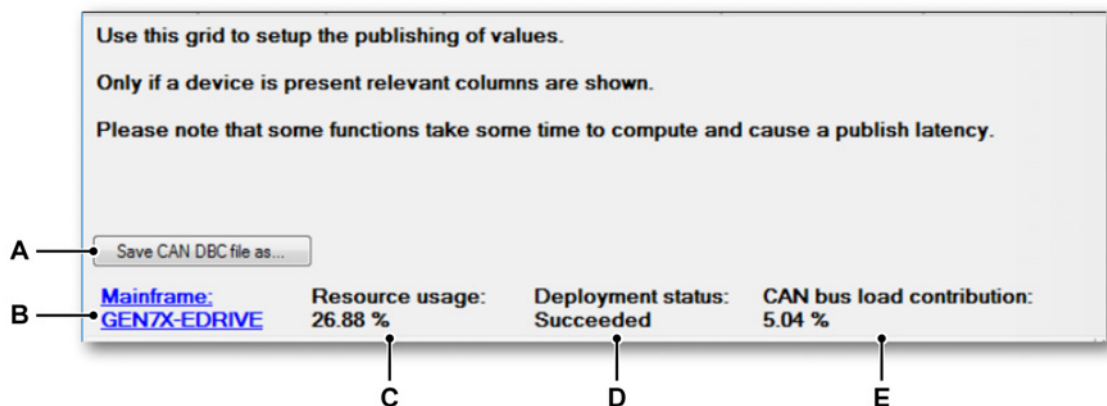
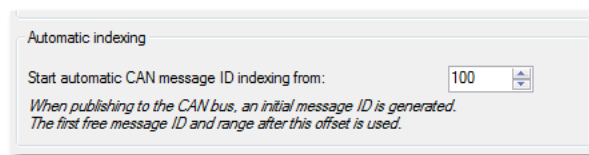
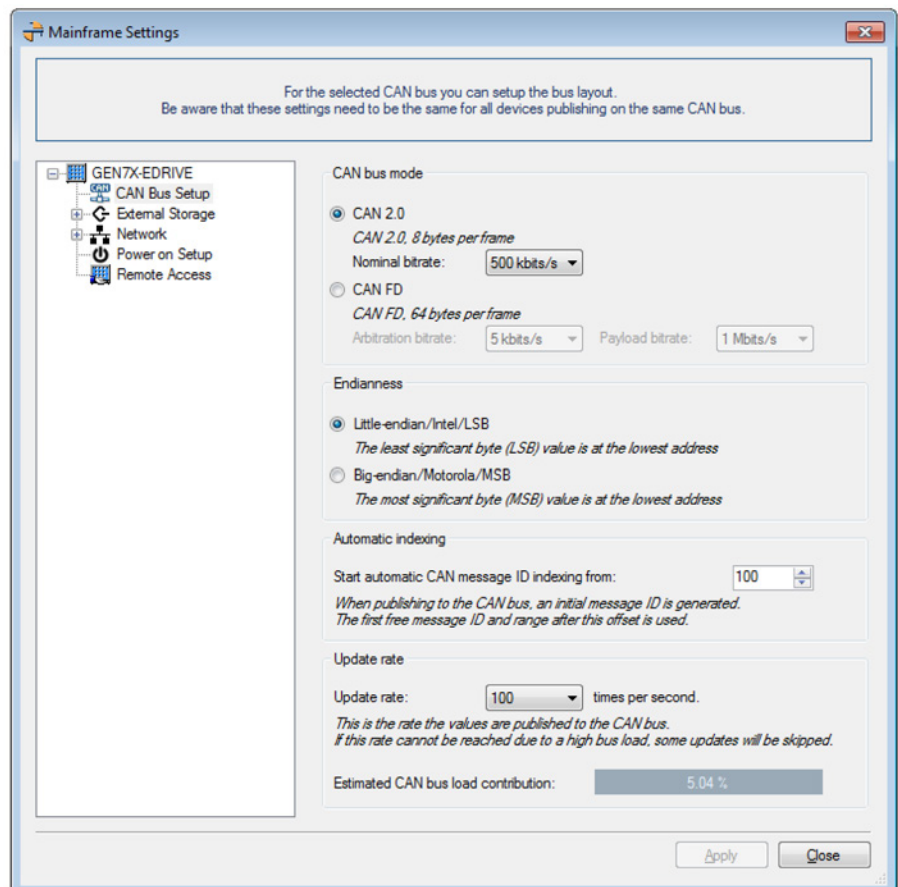

Figure D.15: RT-FDB - Publishing area
Figure D.18: CAN message - Automatic indexing
Figure D.19: Mainframe settings - CAN bus setup
Note Depending on the available (fieldbus) options in the mainframe, the publication target is enabled in the **Real-time Calculators Publishing** row (see Figure D.15).
- E CAN bus load contribution** The CAN bus load contribution shows how much the amount of published data contributes to the total CAN bus load (see Figure D.15). The total load is based on the CAN bus bandwidth as set in the “Mainframe Settings” dialog (see Figure D.19) and the update rate selected there.
The **Automatic indexing** dialog (see Figure D.18) from the **CAN bus setup** window (see Figure D.19) is used to determine the start index. The CAN message ID can be manually changed. If it is set to an ID / location combination that is already in use by another formula, an error will be generated. When this happens, the formulas in the RT-FDB will not be correctly deployed to the mainframe. Starting an acquisition in this state will result in an omission of RT-FDB results.
The formula will be automatically assigned to the first free message ID (see Figure D.18), at the first free CAN location. When enabling the first formula for publish to CAN, it will be set to the start index from the mainframe properties, starting at byte **0..3**. When nothing is changed and a second formula is enabled, this will be published at the same message ID, but from byte **4..8**. Formulas will also use 4 bytes as the values are published as 32 bit floating-point numbers.